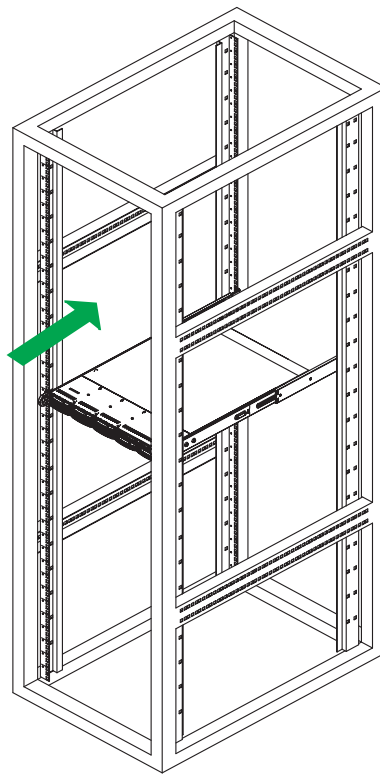

Figure 2-3. Installing the Server into the Rack
2. Slide the chassis rails into the rack rails, keeping the pressure even on both sides (you may have to press the locking tabs when inserting). See Figure 2-3.